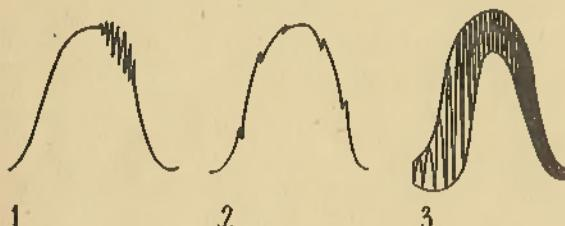

Fig. 7.
Generally speaking, where superhets. are concerned, the A.V.C. should be made inoperative for alignment work, and for both types of receivers the input signal should be kept as low as possible to avoid any chance of overloading any of the stages. We therefore make use of the oscilloscope "Y" amplifier for the regulation of picture size. During the alignment work, we may find that at one step a jiggle or "squeg" will appear on the curve as shown in Fig. 7 (1 and 2); this will be due to parasitic oscillation at (1) and L.F. pick-up at (2), and the cause of either can then be hunted for by watching the effect of our efforts on the screen.